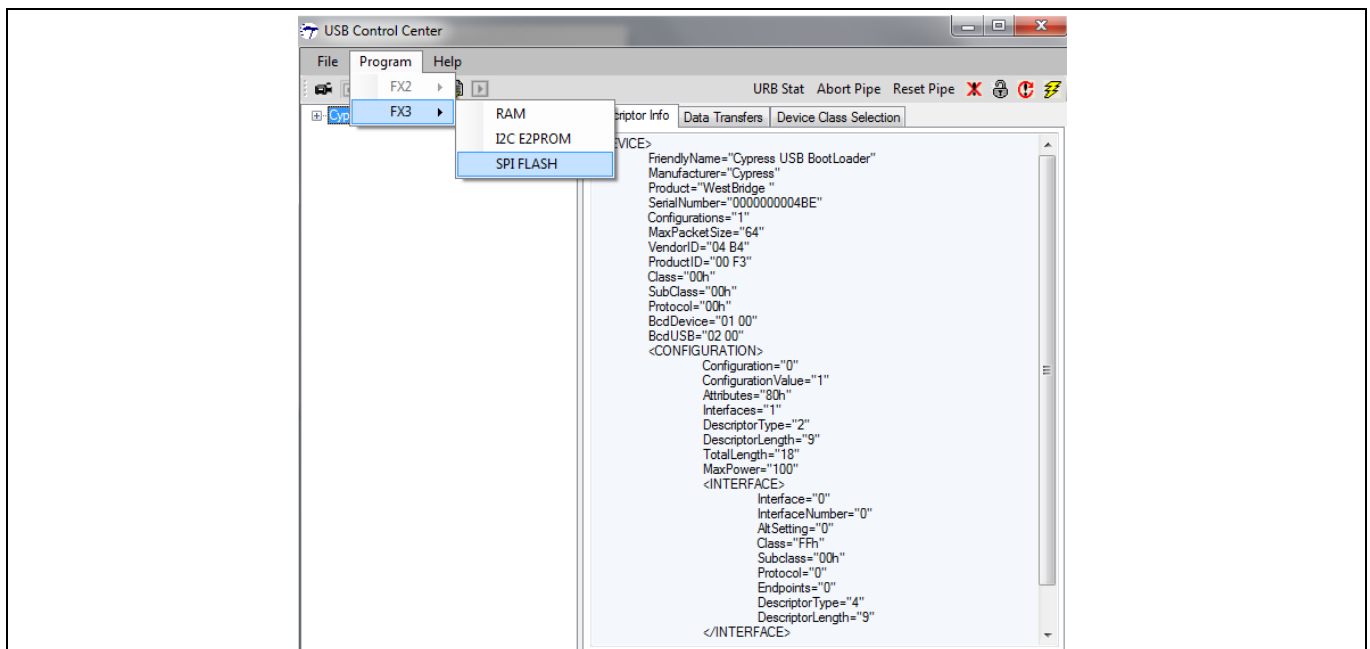
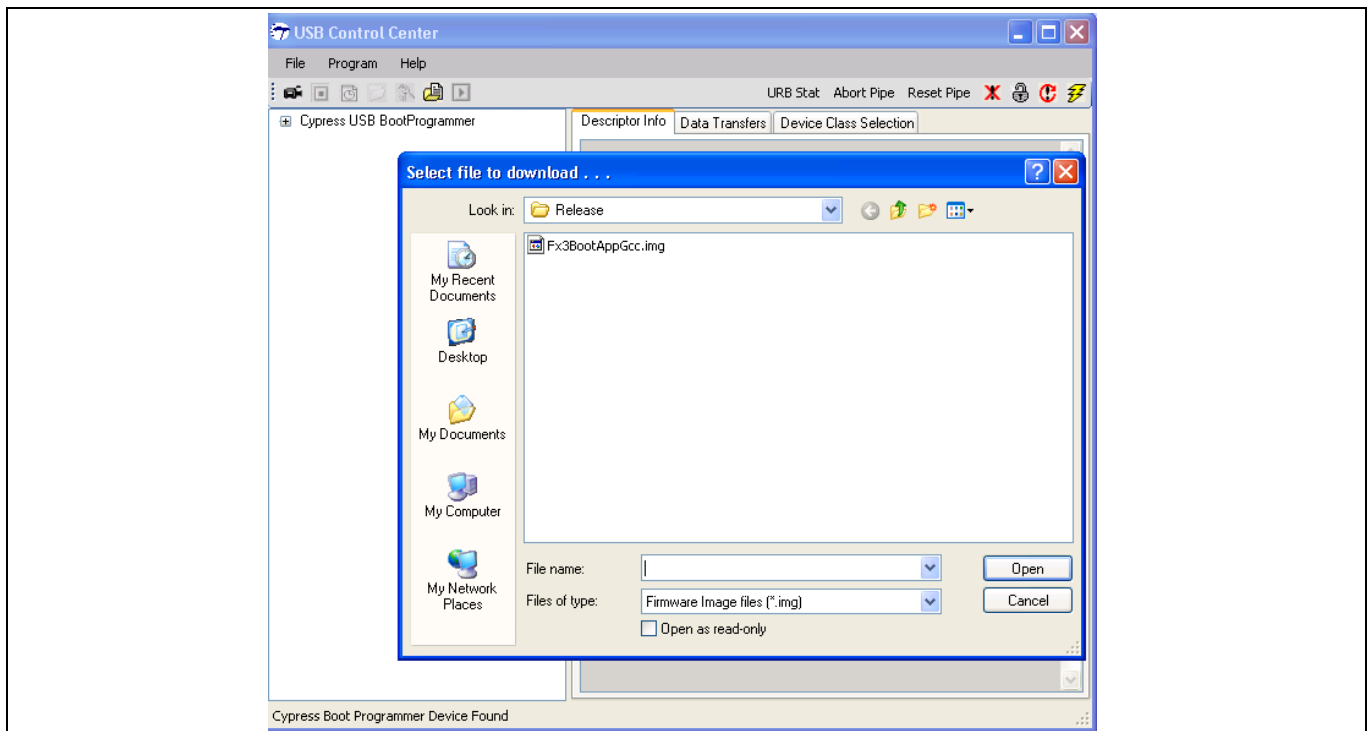

Figure 31 Choose Program > FX3 > SPI FLASH in Control Center
Figure 32 Double-click on the .img file to be programmed into SPI flash
- In the Control Center, select the FX3™ device and then choose **Program > FX3 > SPI FLASH**, as shown in **Figure 31**. Browse to the *.img* file to be programmed into the SPI flash, as shown in **Figure 32**.